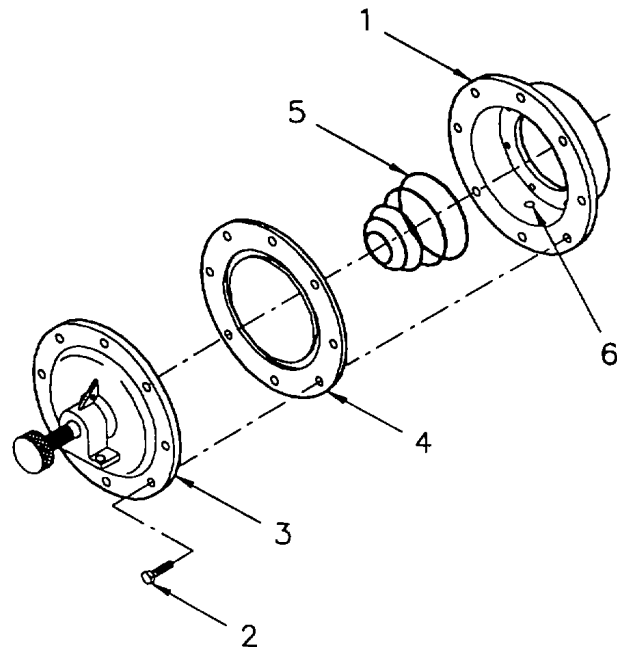
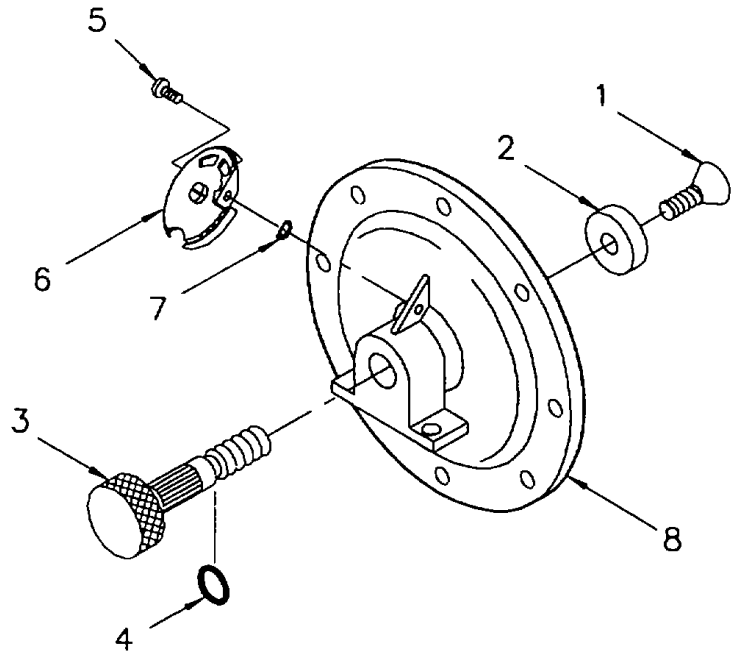

Figure 4-13. Water Side Diaphragm
Figure 4-14. Dial Scale Assembly
- (g) Remove spring (5).
- (3) Remove dial scale assembly.
- (a) Remove pad retaining screw (1, Figure 4-14) and pad (2).
- (b) Remove stroke adjusting knob (3).
- (c) Remove preformed packing (4) from stroke adjusting knob (3).
- (d) Remove screw (5), dial scale (6), and star washer (7) from flange (8).
- (1) Install star washer (7), dial scale (6, Figure 4-14), and screw (5).
- (2) Install preformed packing (4) onto stroke adjusting knob (3).
- (3) Install stroke adjusting knob (3) into flange (8).
- (4) Install pad (2) and screw (1) on stroke adjusting knob (3).
- (5) Position spring (5, Figure 4-13) and waterside diaphragm onto cylinder (1).